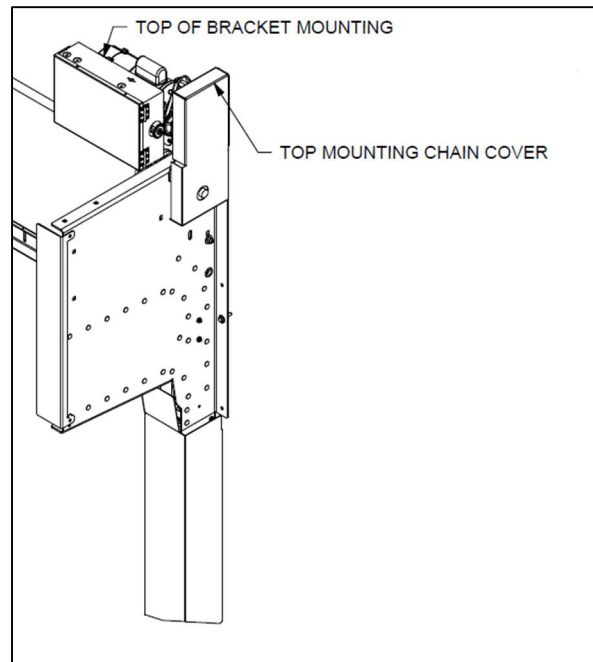

Figure 41 – TOP MOUNTING CHAIN COVER OPTION
- For the top motor mount, use the #10 self-drilling screws to attach the chain cover to the motor bracket. Reference **Figure 41**.